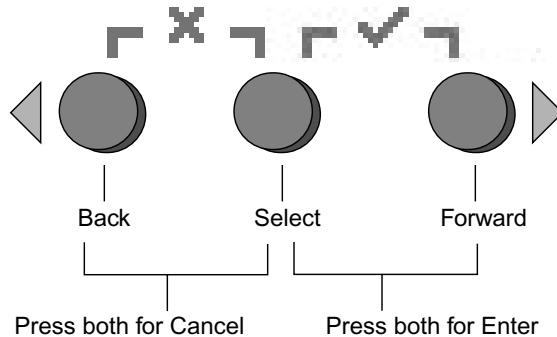

FIGURE 1-4 Operator Panel Buttons
1. **Press any operator panel button on the server front panel (see FIGURE 1-4).**